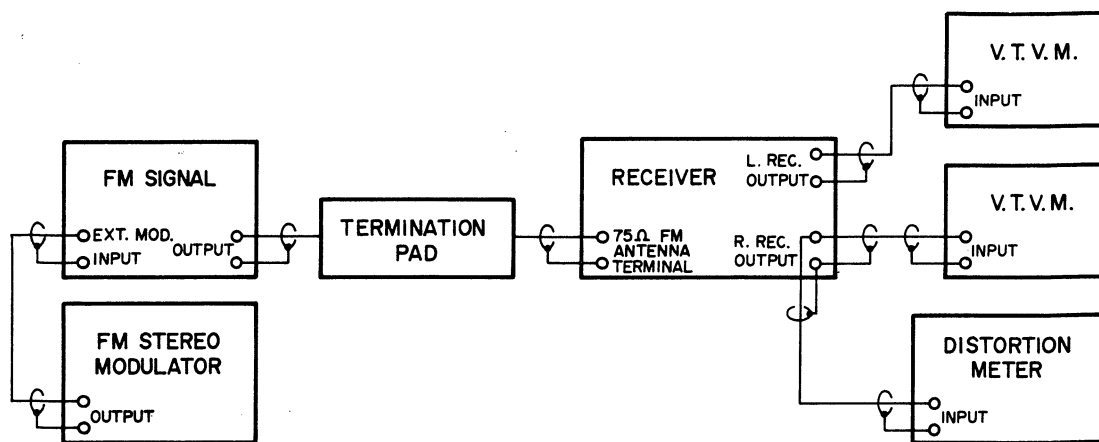

Fig. 11 INSTRUMENT CONNECTIONS
- 1) Connect the various measuring instruments as shown in Fig. 11.